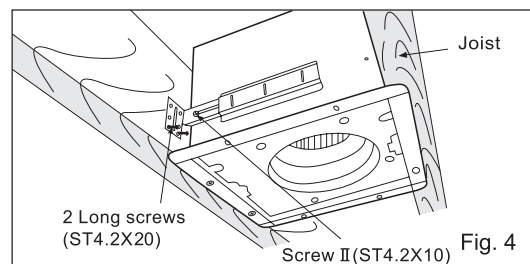

Fig. 4
4. Install the suspension bracket to joists by using long screws (ST4.2X20) and secure it to the fan body by using screw II (ST4.2X10) (Fig. 4)